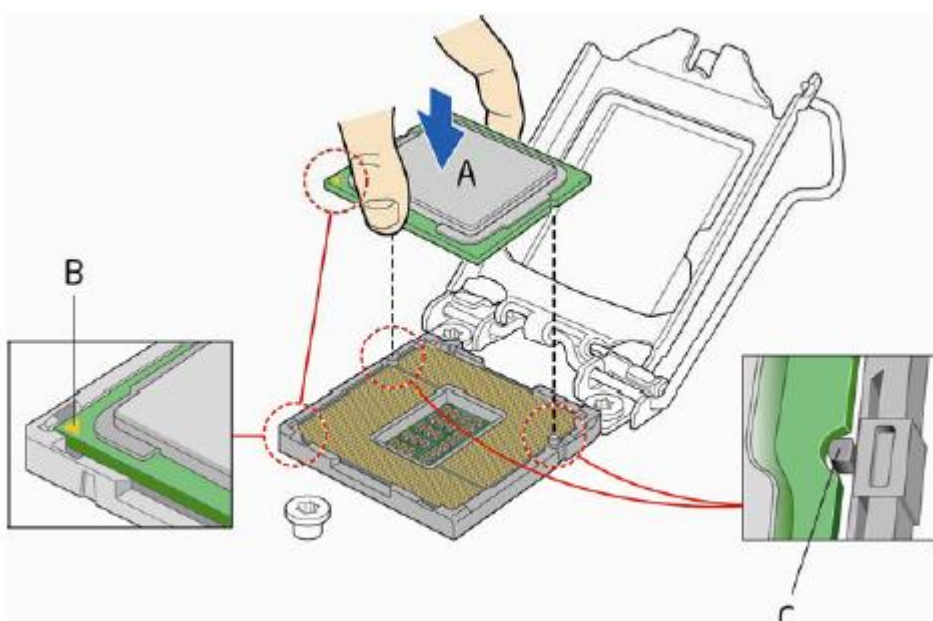

Figure 15: Install the processor
4. Hold the processor with your thumb and index finger oriented as shown in Figure 15 to align your fingers with the socket finger cut-outs. Make sure that the processor Pin 1 indicator (gold triangle) is aligned with the Pin 1 chamfer on the socket (Figure 15, B) and that the notches on the processor align with the posts on the socket (Figure 15, C). Lower the processor straight down without tilting or sliding it in the socket (Figure 15, A).